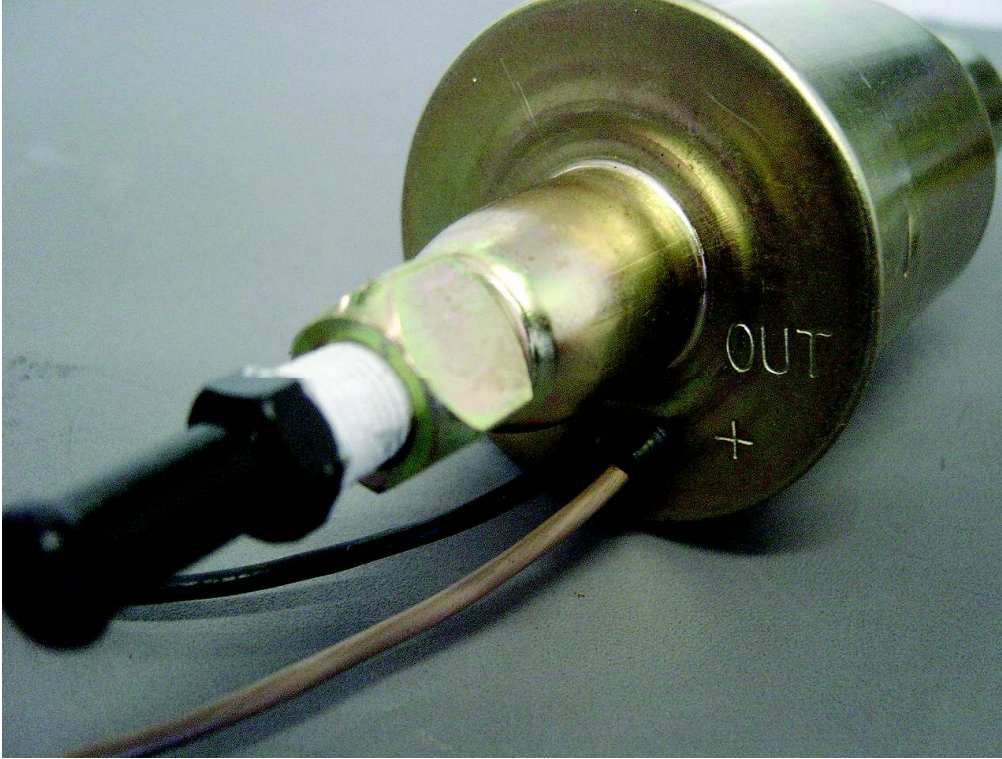

Figure 5. View showing wire polarity and pump output.
5. Connect white wire to a Positive (+) 6V (8011) or 12V(8012, 8016) switched ignition source with a minimum 10 amp rating. Connect black wire to chassis ground. See figure 5.